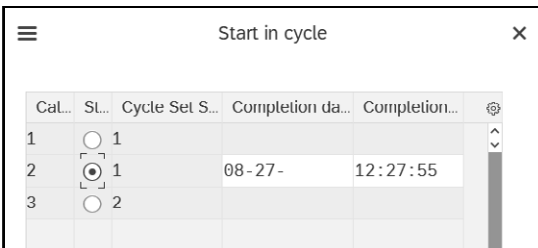

Figure 5.63: Enhanced Multiple Counter Plan: Start in Cycle
- Use the **Start in cycle** function in Transaction IP10 when you want to continue an existing maintenance cycle. Here, you specify the **Cycle Set Sequence** and **Completion date** on which the last maintenance was performed (see Figure 5.63).